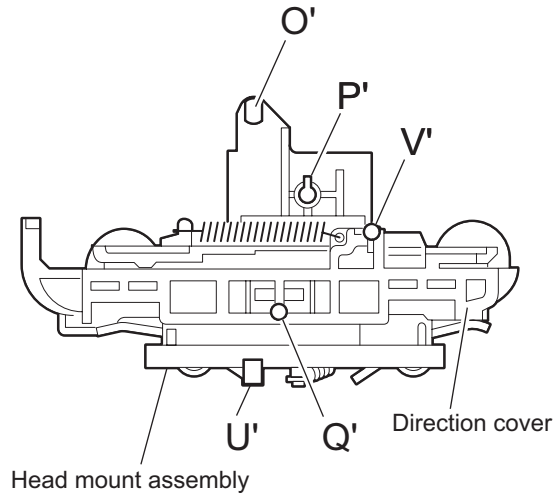

Fig.11
2.2.6 Reattaching the Play/ Record & Clear head (See Fig.11~13)
(1) Reattaching the head mount assembly.
- b) Fit the bosses **O'**, **P'**, **Q'**, **U'** and **V'** on the head mount assembly to the holes **P** and **V**, the slots **O**, **U** and **Q** of the mechanism sub assembly (See Fig.11 to 13).